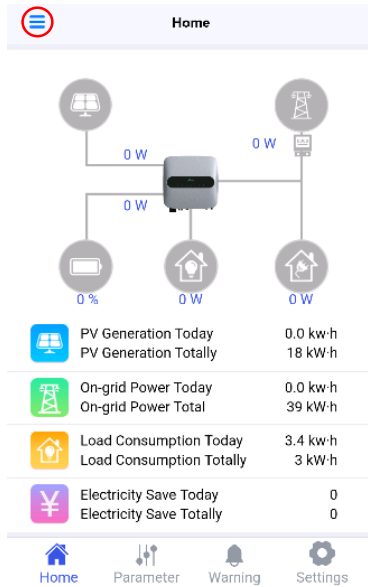

Figure 3-2
a. Tap the button on the top left of screen, enter APP sidebar (Figure 3-2)